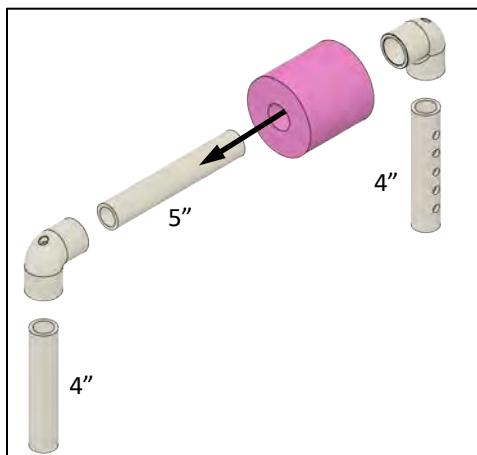

Figure 17
- Insert the 5" long pipes into the 2" long floatation pieces before connecting the elbows. (Figure 17)
- Position the thruster mounting pipes with the holes facing as shown. (Figure 17)